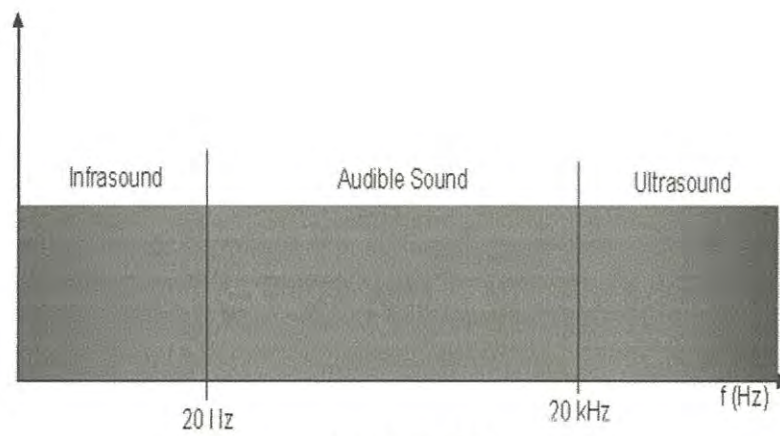

Figure Q2(a)
- Q2** (a) The frequency, f of an oscillating disturbance is equal to number of times (cycle) every second the disturbance passes from the one extreme position to other and back to original position. The number of times (cycles) per second is called Hertz. Basically, the frequency in pure tone sound wave namely pitch of the tone. Briefly describe the particular type of sound as shown in the **Figure Q2(a)**. (3 marks)
- (iii) If the data from **Table Q2(b)(i)** is converted to octave band as shown in **Table Q2(b)(ii)**, examine the total sound pressure level in dB(A) and total mean square pressure (in N/m^2). (6 marks)